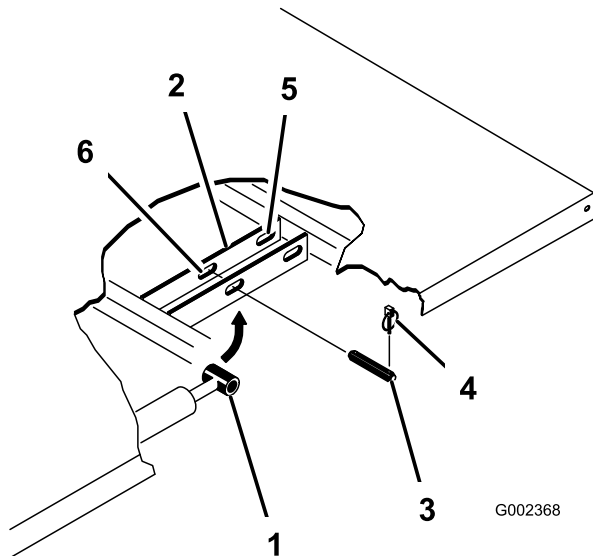

Figure 35
2. Remove the lynch pins from the outer ends of the cylinder rod clevis pins (Figure 35).